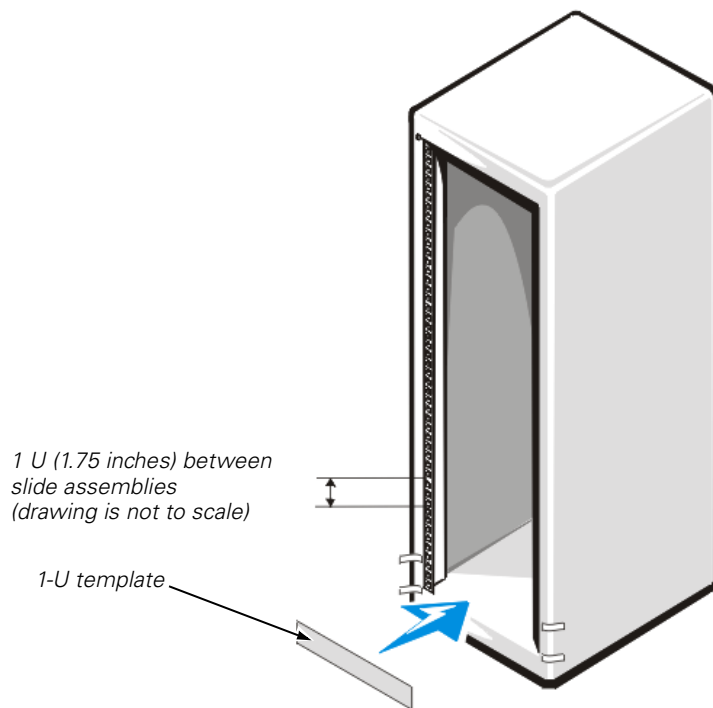

Figure 1-16. Using Template to Mark Vertical Rails
4. Mark the rack's front vertical rails with a felt-tipped marker or place masking tape where the system's upper and lower edges will be located (see Figure 1-16).